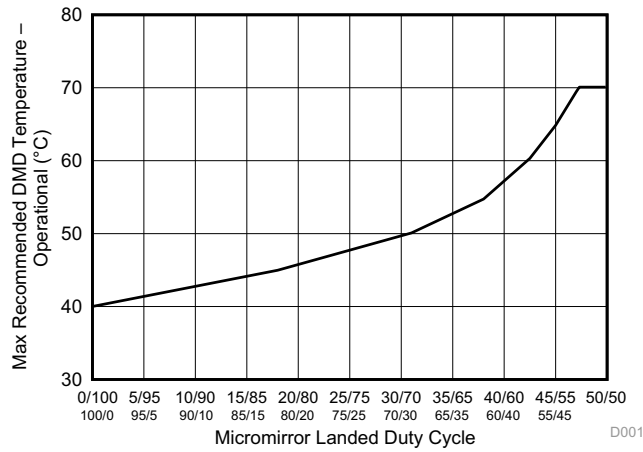

Figure 1. Max Recommended DMD Temperature – Derating Curve
- (6) Long-term is defined as the average over the usable life.
- (7) Per Figure 1, the maximum operational case temperature at test points TP1 and TP2 as shown in Figure 9 or Figure 10 should be derated based on the micromirror landed duty cycle that the DMD experiences in the end application. Refer to Micromirror Landed-on/Landed-Off Duty Cycle for a definition of landed duty cycle.
- (8) Between any two points on or within the package including the mirror array.